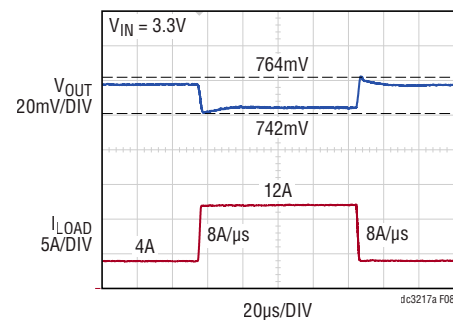

Figure 8. Load Step Response
- Measure the I\_STEP voltage to observe the current,  $V_{\text{I\_STEP}}/10\text{m}\Omega$ . Adjust the amplitude of the pulse to provide the desired transient. Connect signal generator SG1 between SG\_INPUT and GND turrets. Adjust the rising and falling edge of the pulse to provide the desired ramp rate. Figure 8 shows a load step from 4A to 12A. Refer to the following equations: